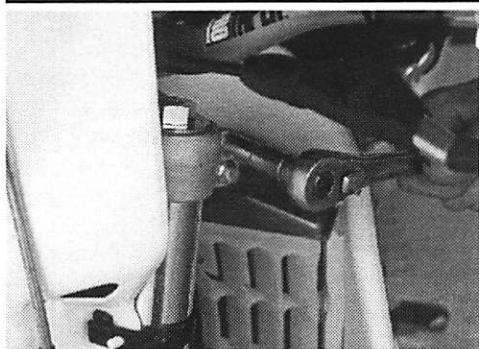

Figure 5.4
3. Loosen the 4 - 10 mm head top triple clamp pinch bolts. (Figure 5.4)